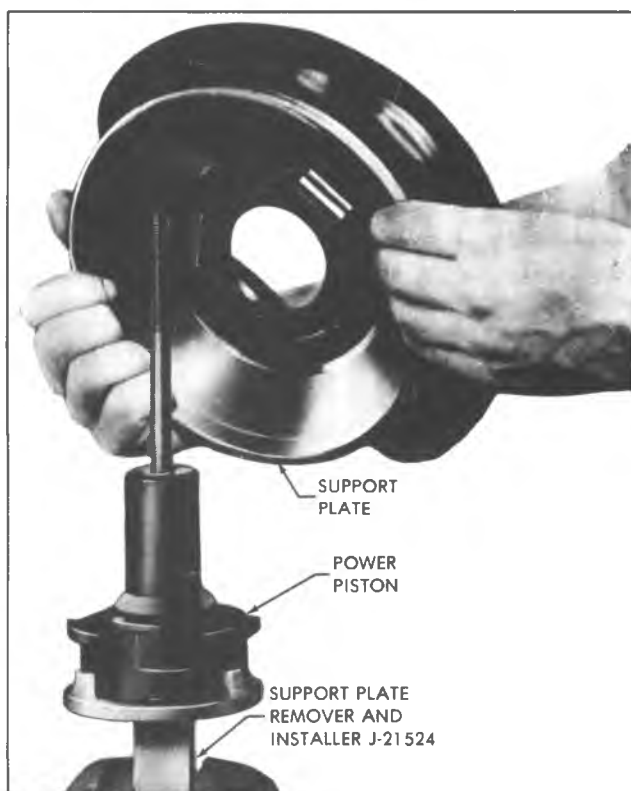

Fig. 5-12C--Installing Support Plate on Power Piston
15. Holding support plate by metal, with locking tangs down, place support plate and diaphragm assembly over tube of power piston. The flange of diaphragm will fit into groove on power piston (fig. 5-12C).
16. Press down and rotate support plate clockwise, until lugs on power piston come against stops on support plate (fig. 5-12C).